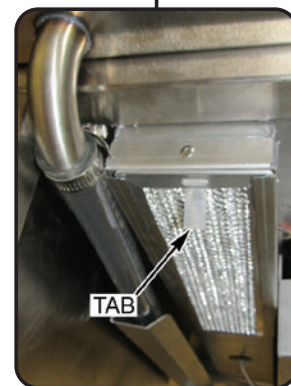

Fig. 86
Filter is located on the bottom side of the oven (Fig. 86) and can be removed from the front of the oven.
1. Remove the filter by pulling the tab (Fig. 86) toward the front of the oven and sliding the filter out of the filter duct assembly.